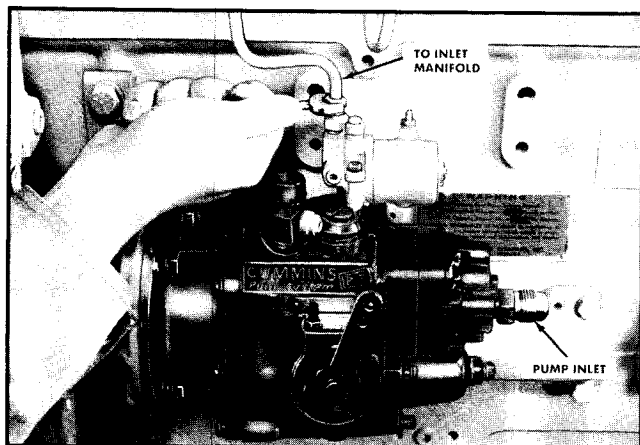

Fig. 4-13. Disconnecting fuel lines
1. Remove fuel line connecting fuel pump and inlet manifold. Fig. 4-13.